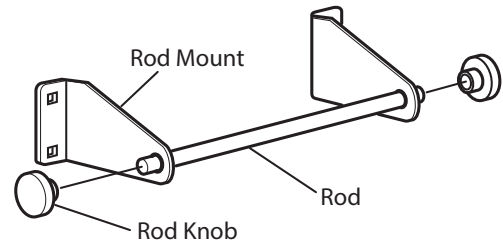

Figure 4-13
3. Insert threaded ends of the Rod (item #9) through hole in each Rod Mount (items #8 & #10) and tighten a Rod Knob (item #7) onto each threaded end. Make sure the Rod Mounts are oriented as shown in Figure 4-13 with the flanged ends pointing out.